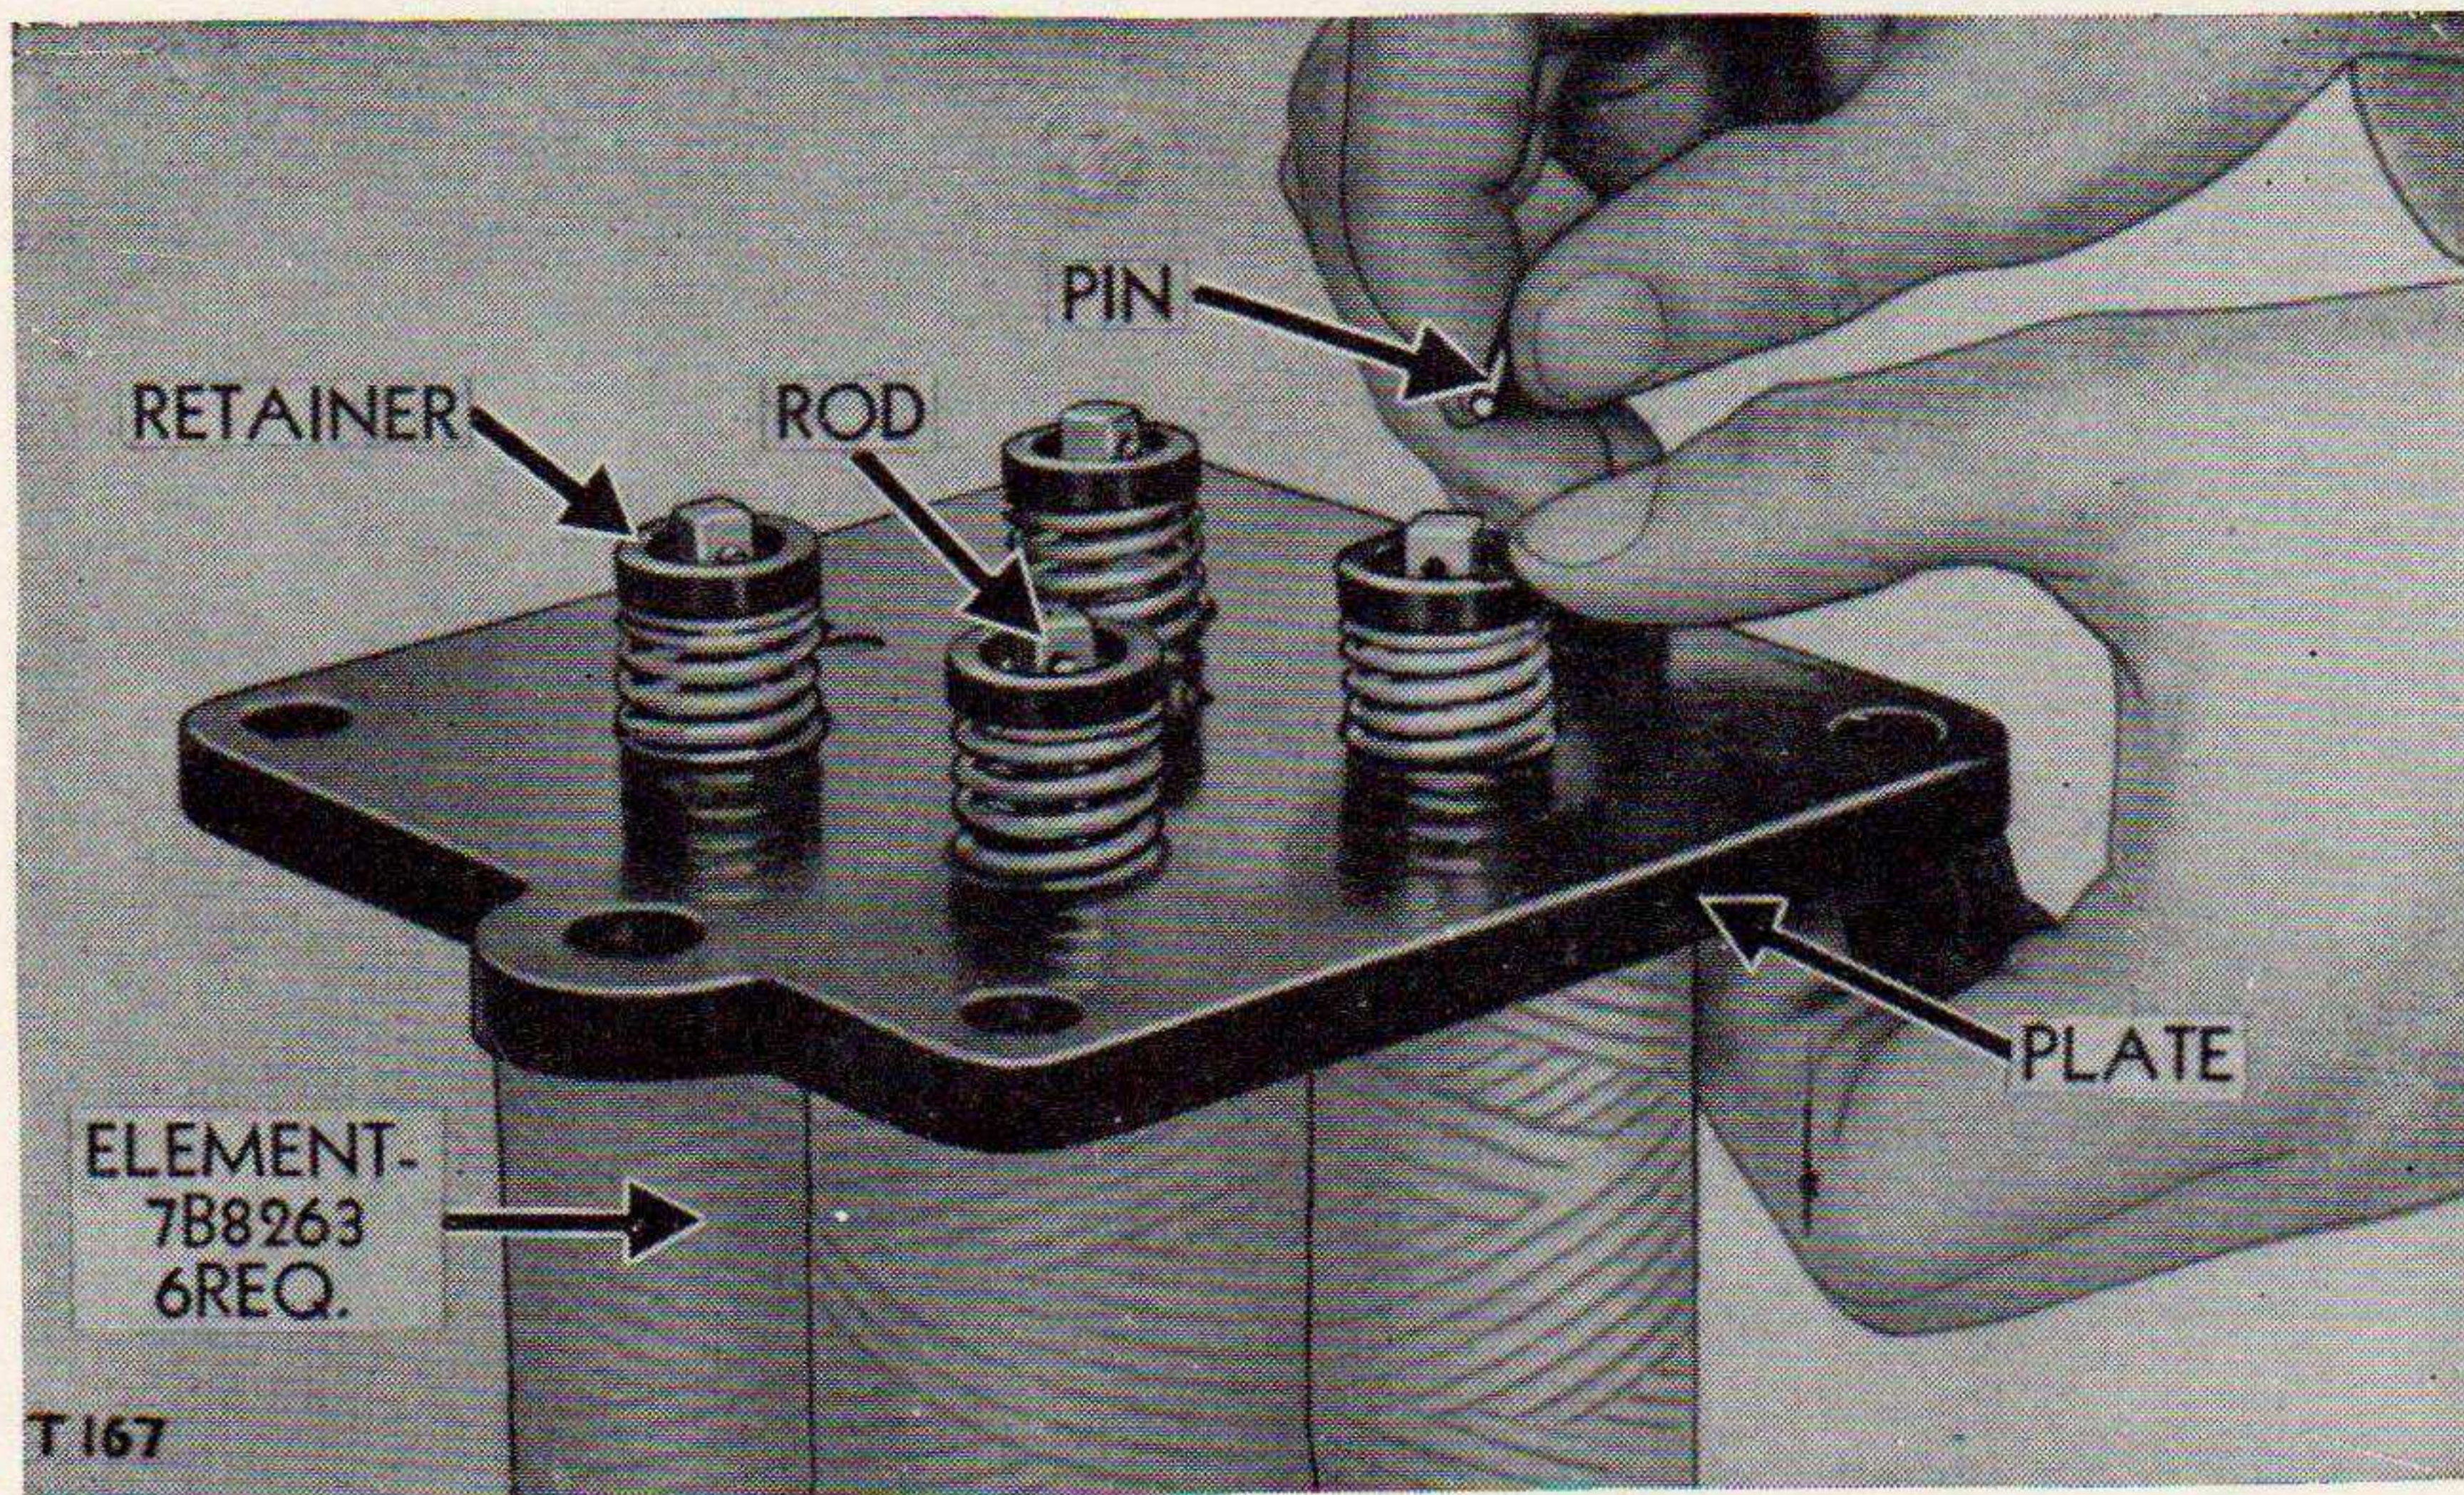

Figure 82. Removing filter elements (assembly 7B8264) from plate.
- (e) *Remove elements.* (See fig. 82.) Compress each spring and remove the pins. Lift off the plate and remove the elements from the rods.